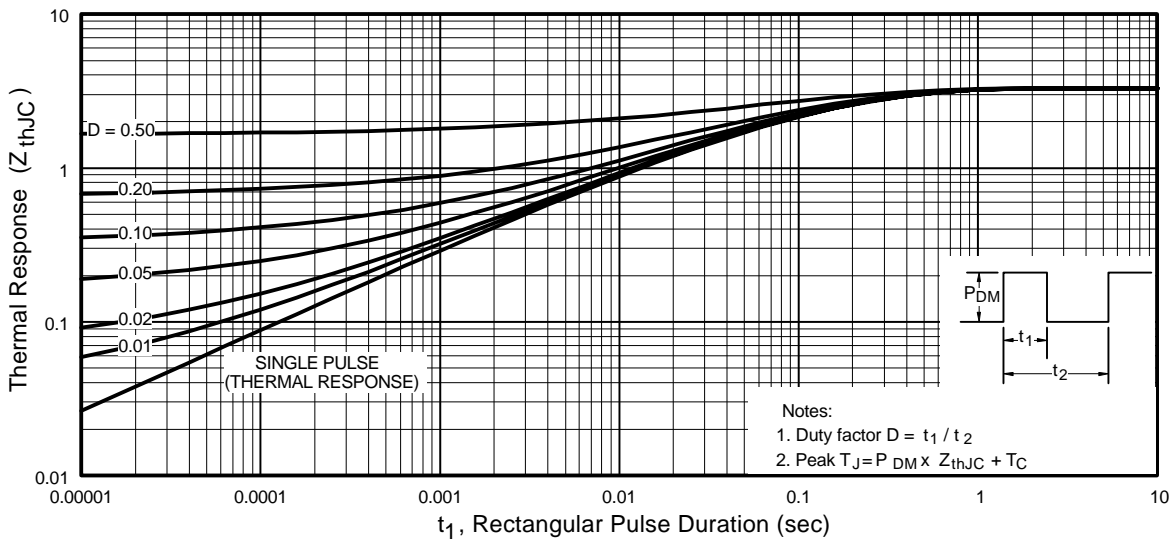

Fig 11. Maximum Effective Transient Thermal Impedance, Junction-to-Case
- ① Repetitive rating; pulse width limited by max. junction temperature. (See fig. 11)
② Starting $T_J = 25^\circ\text{C}$, $L = 9.5\text{mH}$